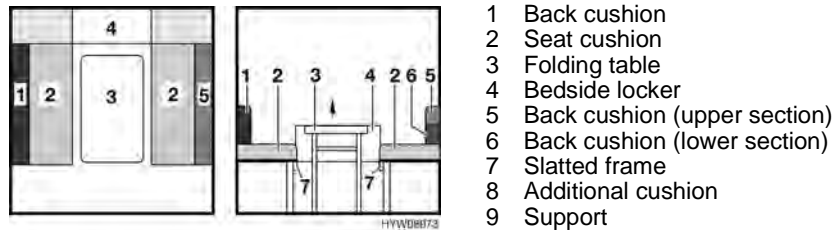

Fig. 38 Prior to conversion
- Fold up the folding table (Fig. 38,3) and store in the provided holder (see section 6.7).
- Remove the bedside locker (Fig. 38,4) and place it to the side (see section 6.8).